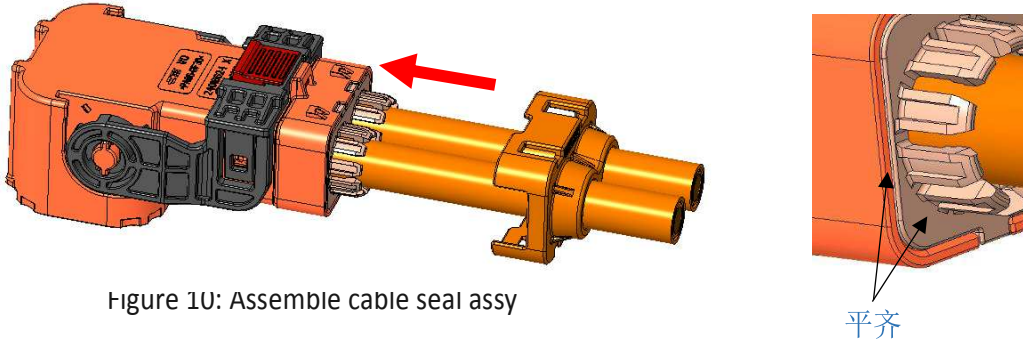

Figure 10: Assemble cable seal assy
- c. Hex crimp dimensions per figure 10 and table 8